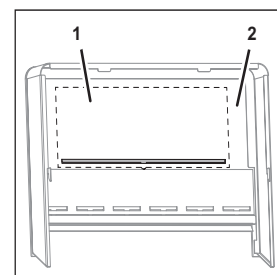

Fig. 36
1. Remove the promotional sign (Fig. 36/1) from the promotional panel (Fig. 36/2).
2. Slide the new promotional sign (Fig. 36/1) into the promotional panel (Fig. 36/2).